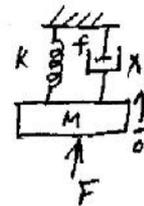

Fig. 1.
1. Write the mathematical model of the given mass-spring-dashpot system in Fig. 1.